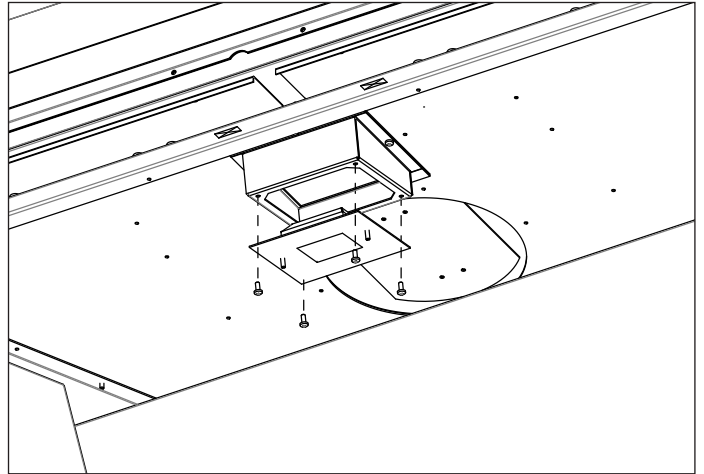

Figure 14: Top Light Removal
4. Remove the top light assembly by removing four (4) bolts using a 5/16" socket (see Figure 14).
5. Remove light deflector (see Figure 14).